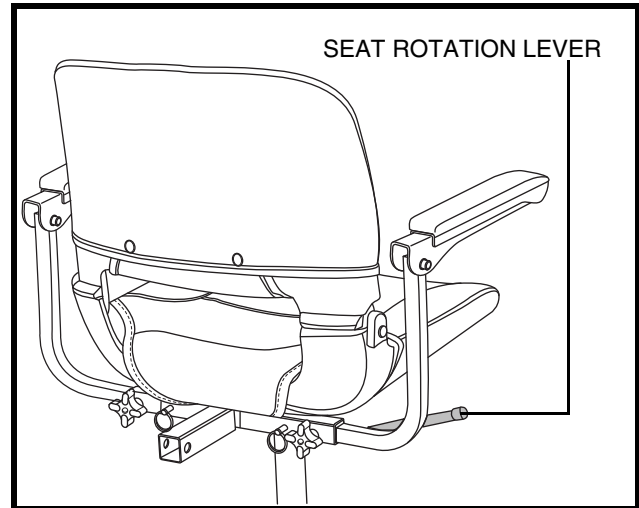

Figure 16. Seat Position Adjustments
1. Push forward on the seat rotation lever to disengage the seat. **See figure 16 or 18.**